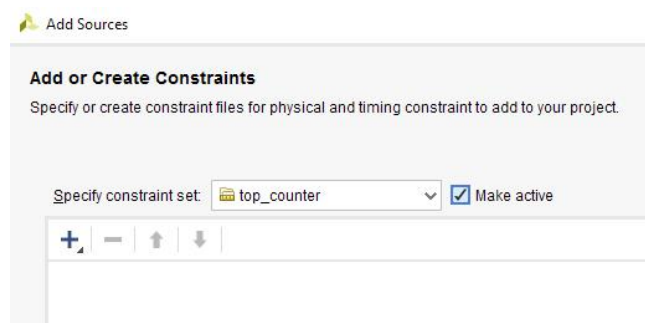

Figure 45
7. In this window check **Make active** in front of the **top_counter** constraint set name (Figure 45)